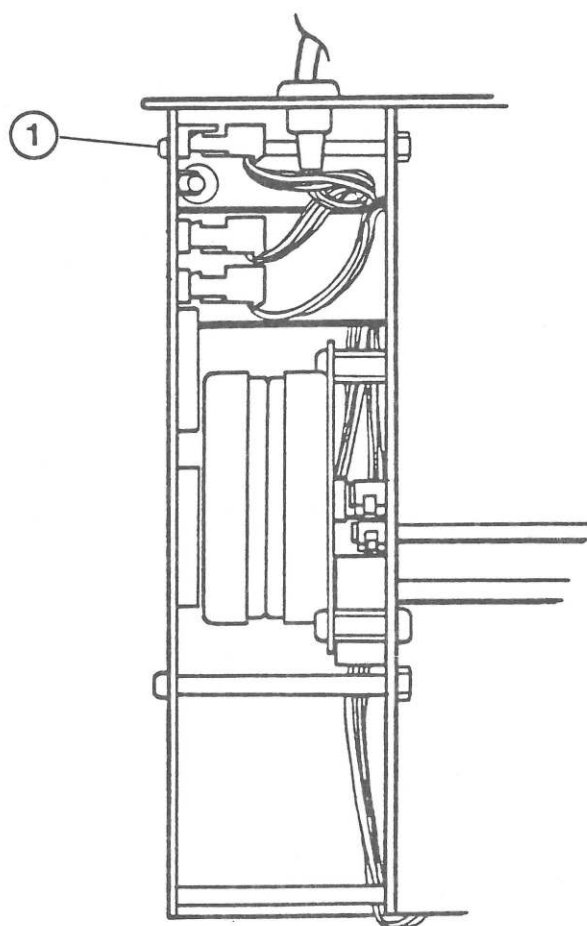

FIGURE 2
7. Tip the unit back down. At the left of the unit is a printed circuit board (the deserializer card). Locate the three cables connected to it, and disconnect the rearmost cable (interface cable) from connector J3 (see Figure 2, #1). The chassis can now be lifted from the base.